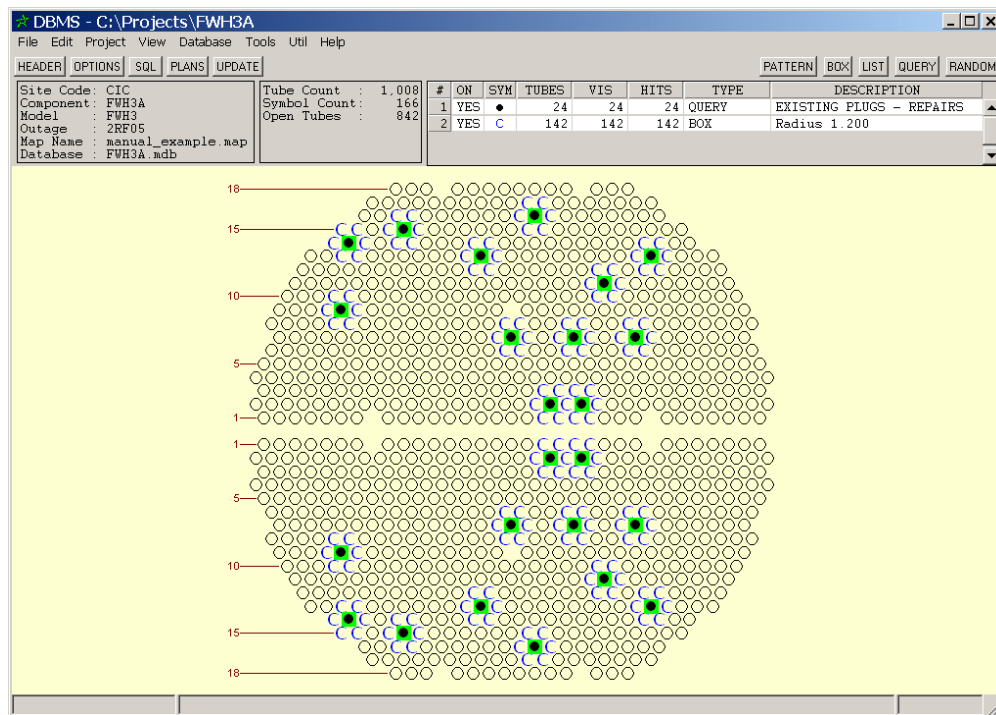

Figure 9-7. Bounding Existing Plugged Tubes Using the Box Dialog
STEP 12: Enter a value of **1.200** in the **Box** dialog and click **OK**. New symbols should now appear surrounding or bounding the plugged tubes (See Figure 9-7). You can experiment with the value to get the results you desire.